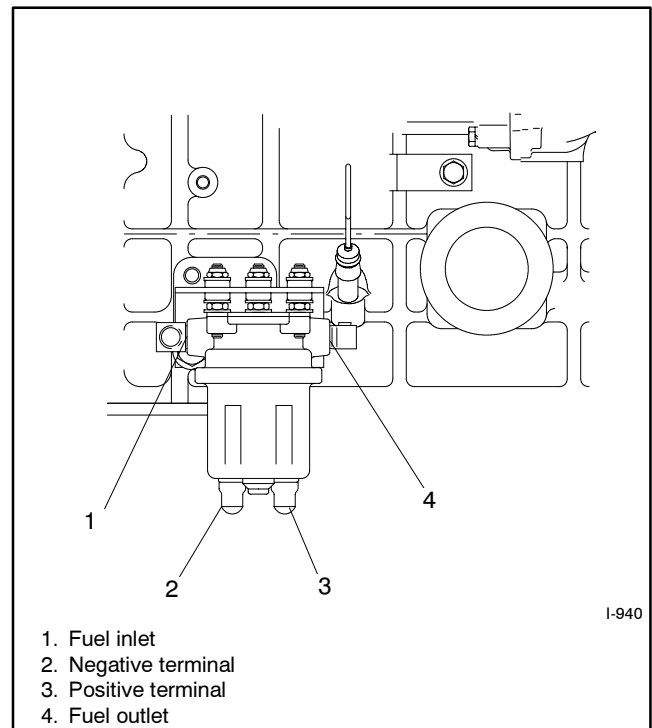

Figure 4-7 Fuel Pump
1. Remove the two leads from the terminals at the bottom of the fuel pump. The pump terminals are labeled (-) and (+). See Figure 4-7.